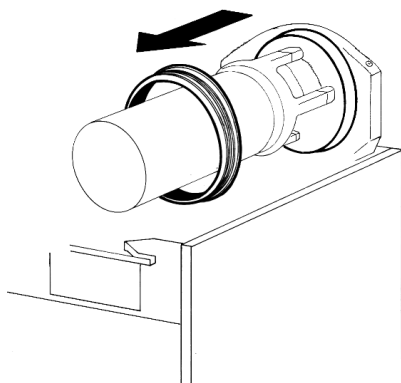

figure 9
- 4 Remove the bowl gasket from its seat (see figure 9).